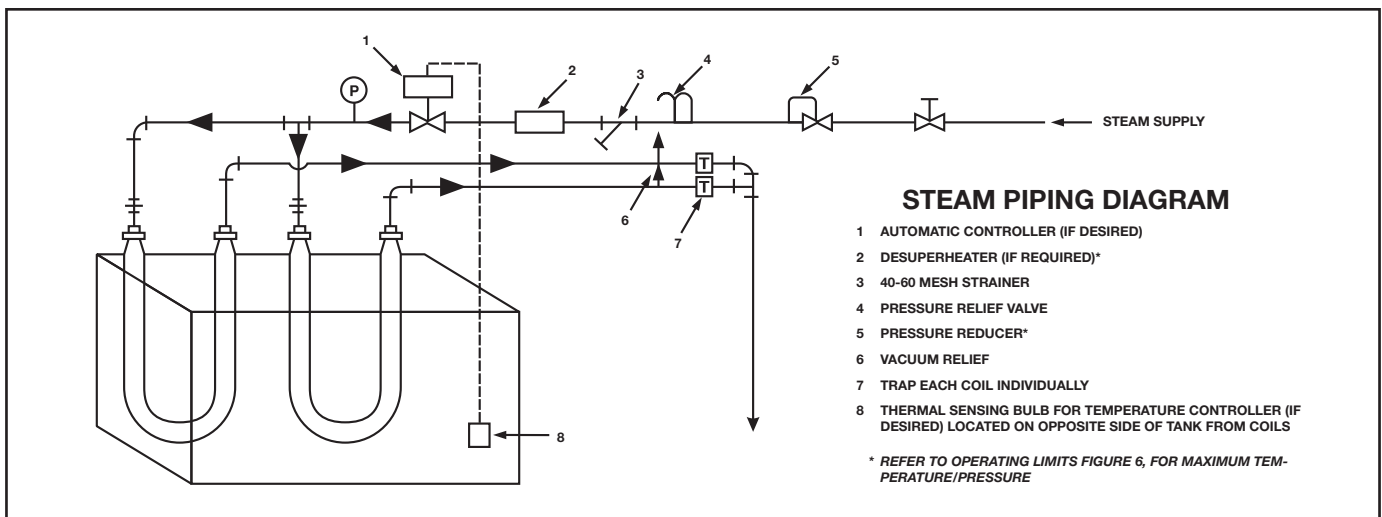

Figure 3
- **If a temperature controller is used, it should be installed in accordance with the manufacturer’s recommendations. Figures 3 and 4 show the suggested locations for controller mounting.**
steam exit line can prevent such an occurrence (See Figure 3). A bleed line around the steam controller can also be used to keep a positive pressure on the tubing.